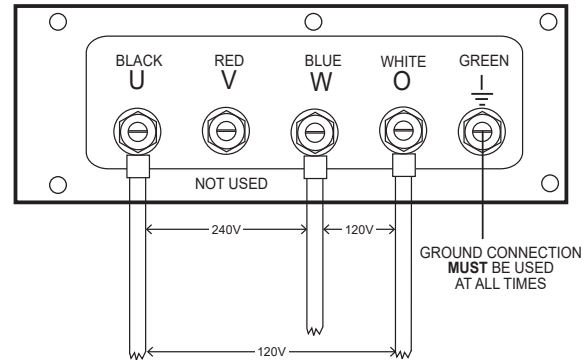

Figure 33. UVWO Terminal Lugs 1Ø-240/120V Connections
2. Connect the load wires to the UVWO terminals as shown in Figure 33.